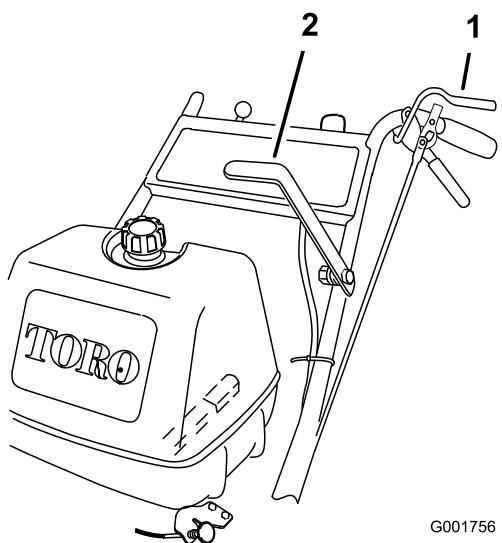

Figure 9
1. Squeeze the operator presence control (OPC) levers against the handles (Figure 9).
2. Push the blade control (PTO) lever firmly forward until it latches over the center (Figure 9).
To disengage the blades, pull the blade control lever rearward all the way (Figure 9). The engine will kill when the OPC levers are released with the blade control lever engaged.